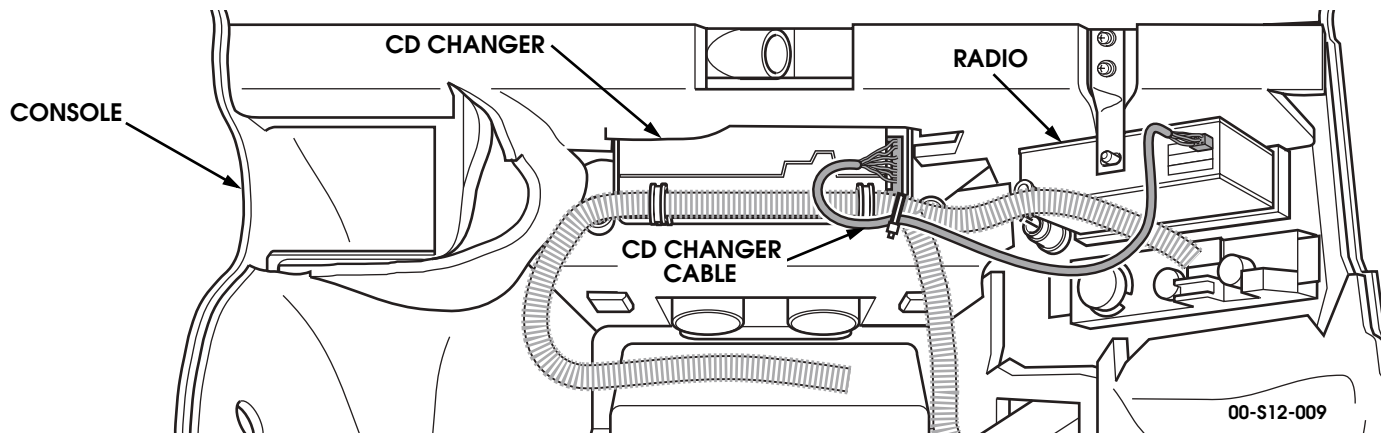

Figure 13-74: CD Changer Harness Routing
3. Pull the CD changer out far enough to remove the wire harness connector from the changer and cut the tie strap securing the cable to the console harness (See Figure 13-74).